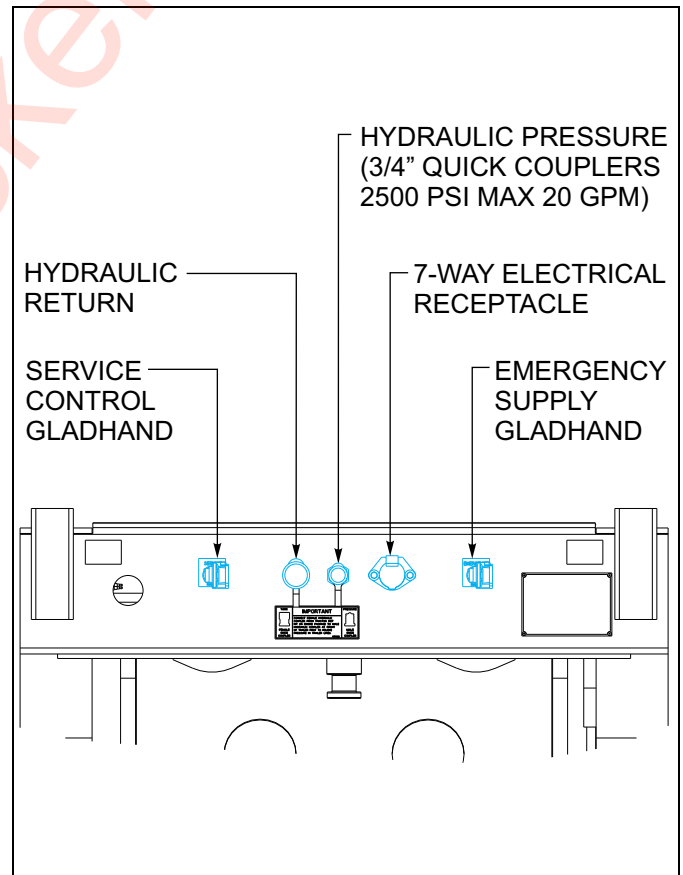

Figure 3-2: Service Hookups
3. Connect the service and emergency air hoses of the towing vehicle to their respective gladhand on the front of the semitrailer; red emergency line to the gladhand with the **"EMERGENCY"** tag, and the blue service line to the gladhand with the **"SERVICE"** tag (See Figure 3-2.) Chock the semitrailer wheels before activating the semitrailer air supply valve in the towing vehicle. Set the parking brakes.
1. Connect the towing vehicle 7-pole electrical plug to the electrical receptacle on the front of the semitrailer (See Figure 3-2.)